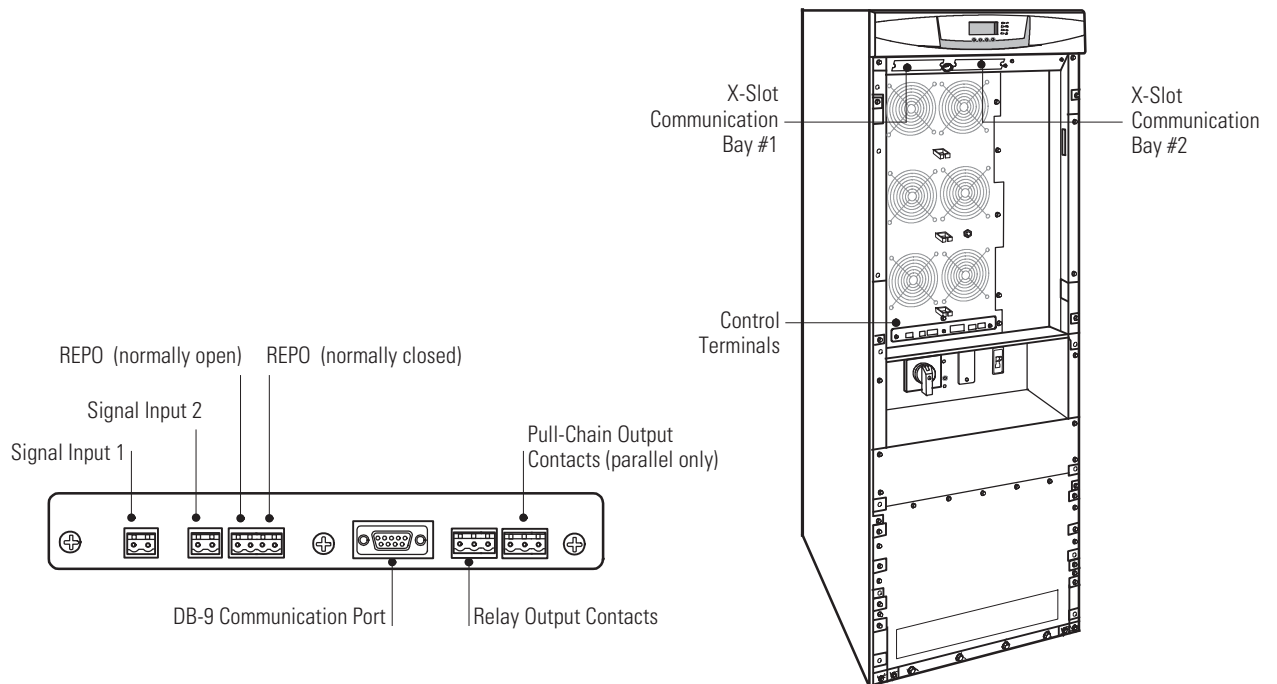
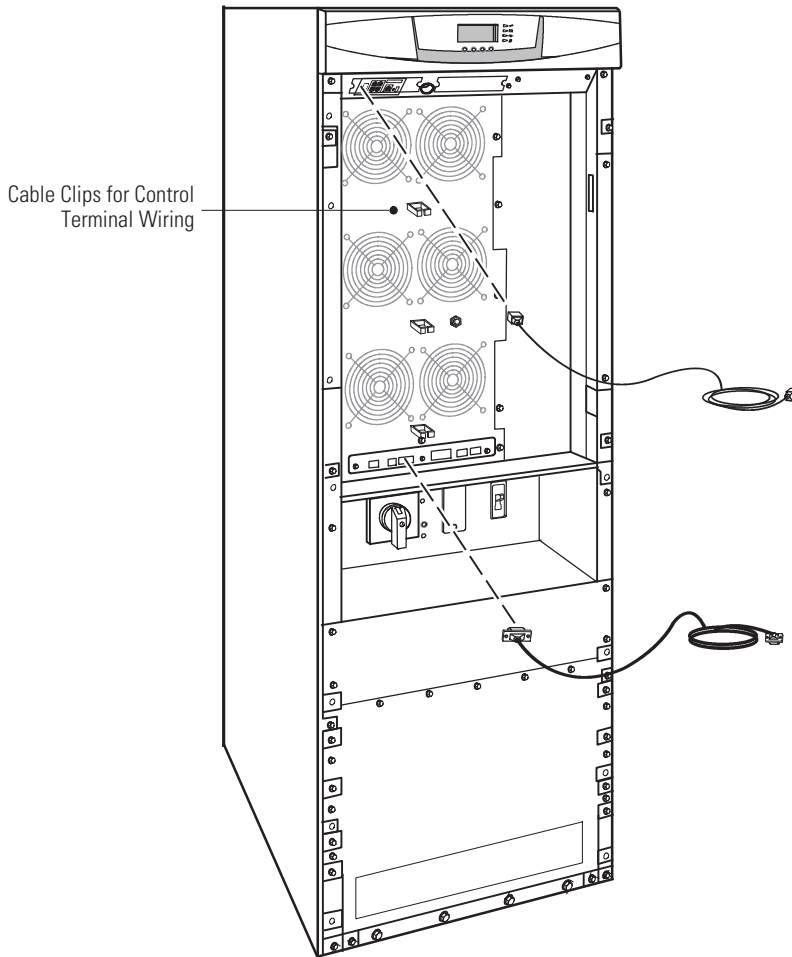
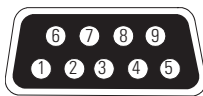

Figure 36. Communication Options and Control Terminals
Figure 37. Installing Communication Cables
Figure 40. Communication Port
Figure 36 shows the location of the communication options and control terminals on the UPS.
2. Install the appropriate X-Slot card and/or necessary cables into the ports (see Figure 36 and Figure 37).
The cable pins are identified in Figure 40 and the pin functions are described in Table 2. See Figure 36 on page 51 for the communication port location.
See Figure 36 on page 51 for the location of the two X-Slot communication bays.
5. Install the IRC into an open X-Slot communication bay (see Figure 36 on page 51).
4. Install the IRC into an open X-Slot communication bay (see Figure 36 on page 51).